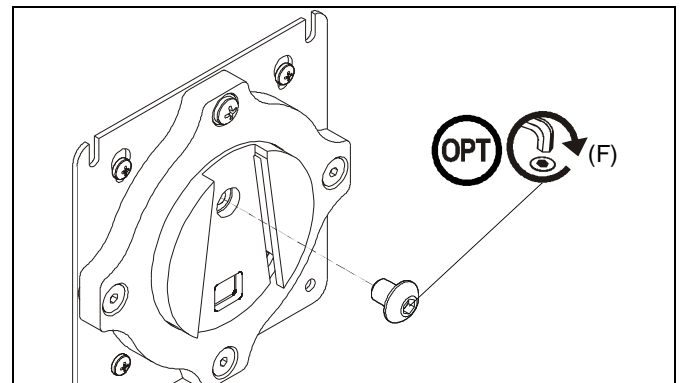

Figure 7
**NOTE:** (Optional) Rotational adjustment may be locked by installing rotational locking screw (F) into back of faceplate. (See Figure 7)